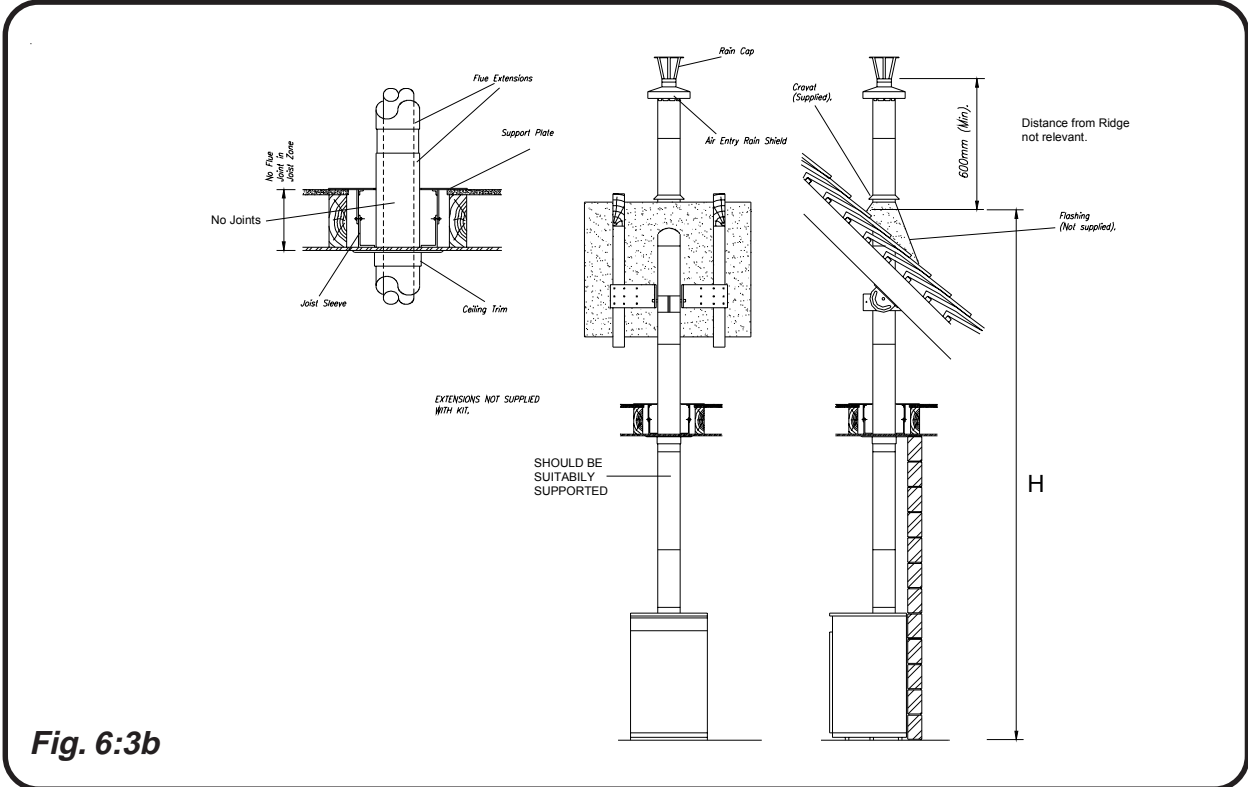

Fig. 6:3b
- Take the next section and ensure that the correct seals are fitted and undamaged and lubricated. **See Fig. 6:2c.** Then slide the sections together, internal sealing ring end first.
- Build up to the required height to reach the Roof Terminal and complete as shown in **Figs. 6:3a and b**